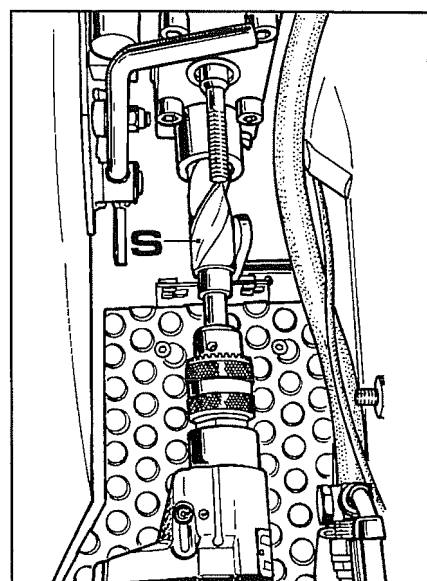

Fig. 18
- 1 Attach the 25 mm inside diameter bushing to the bracket and then make the first hole using the requisite bit (**S** Fig.18) with the drill at slow speed.
- 2 Attach the 28.5 mm inside diameter bushing to the bracket and then make the first hole using the requisite bit (**S** Fig.18) with the drill at slow speed.